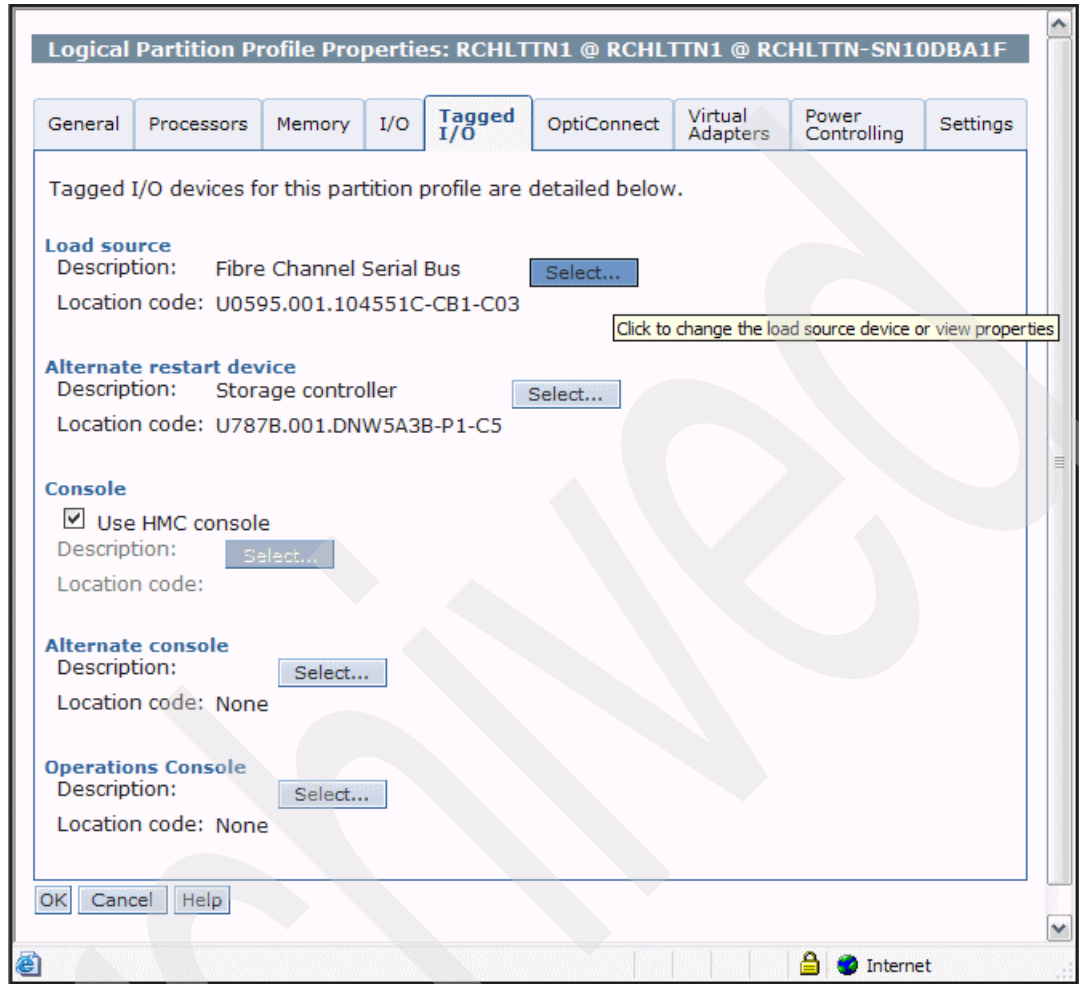

Figure 5-4 Tagged I/O properties
4. On the Tagged I/O tab, click the **Select** button that corresponds to the load source as shown in Figure 5-4.